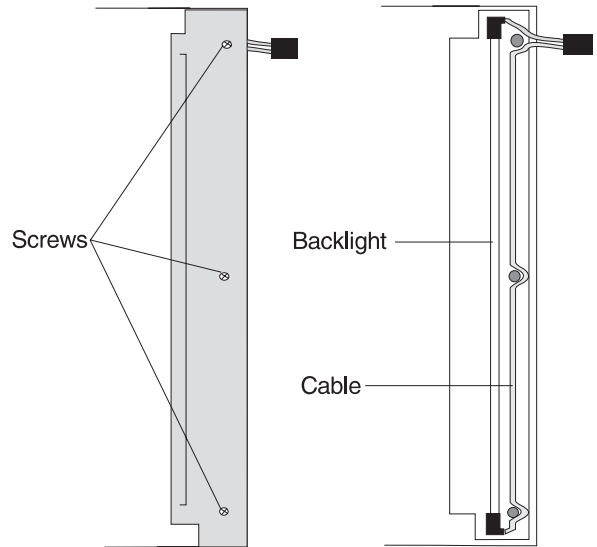

Figure 3-7. Removing the Monochrome Backlight
- 12 Install the new backlight with the cable routed as shown in Figure 3-7.